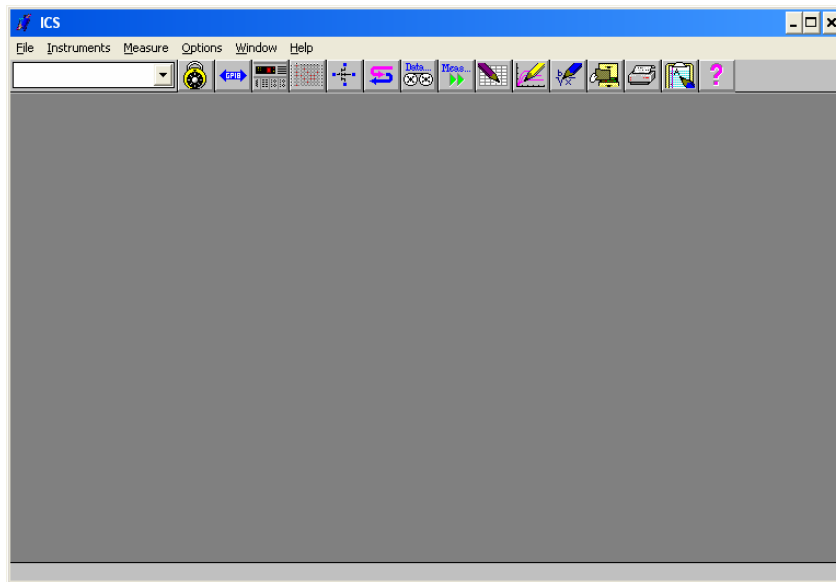

Fig. 1: The Metrics ICS program
2. Start the Metrics ICS program (Fig. 1). (You may get an error message when you try to start the program; just click OK and ignore it.) This program provides a software interface to the parameter analyzer.